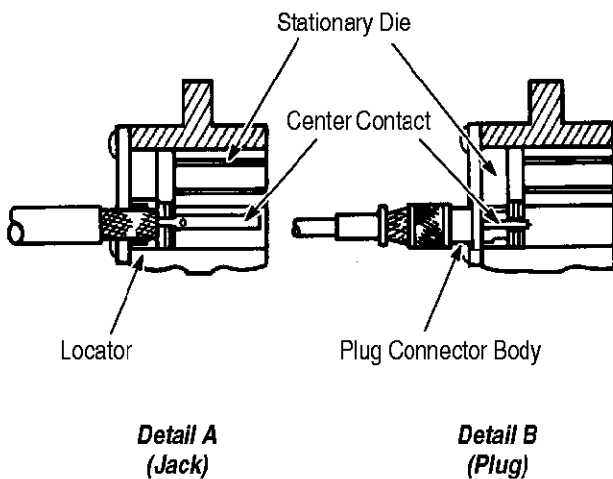

Figure 5
4. Open dies in pneumatic tool and locate the center contact in the small crimping section of the stationary die so that the center contact rests in the die and the bushing is butted against the center contact. See Figure 5, Detail A.
4. Open dies in pneumatic tool, and locate the connector body in the small crimping section of the stationary die so that the center contact rests in the die and the connector flange is butted against the locator as shown in Figure 5, Detail B.